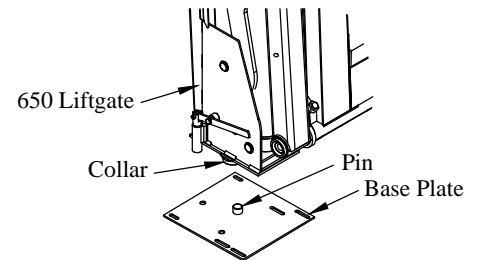

Figure 8: Base plate pin location.
2. **Position** the liftgate collar onto the base plate pin (Figure 8).